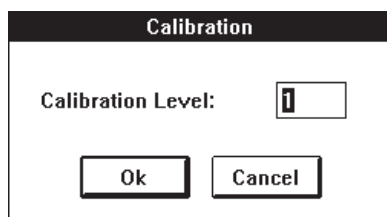

Figure 36 Calibration window
2. A window will appear which says “Calibration Level” and has a number highlighted (See Figure 36). Enter **1** and click on **[Ok]**.